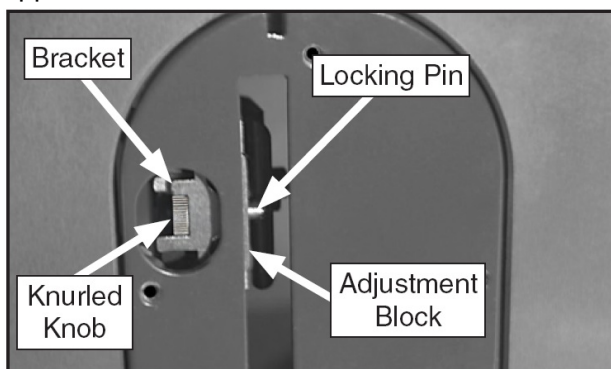

Fig.15:Knurled knob used
A. reinstall the insert, slide the knurled knob out (see **Fig.15**) and rotate it forward so it engages the upper bracket.